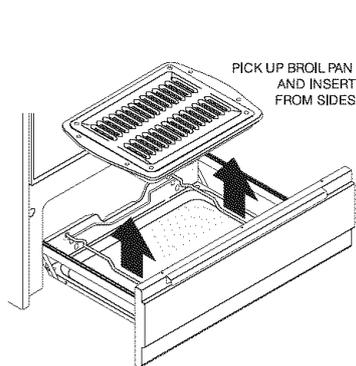

Fig. 1
2. Remove broiler pan and insert (See Fig. 1).
5. Place broiler pan on rack; make sure the broiler pan with the insert is positioned as shown (See Fig. 1). Be sure front of pan is positioned correctly in rack.